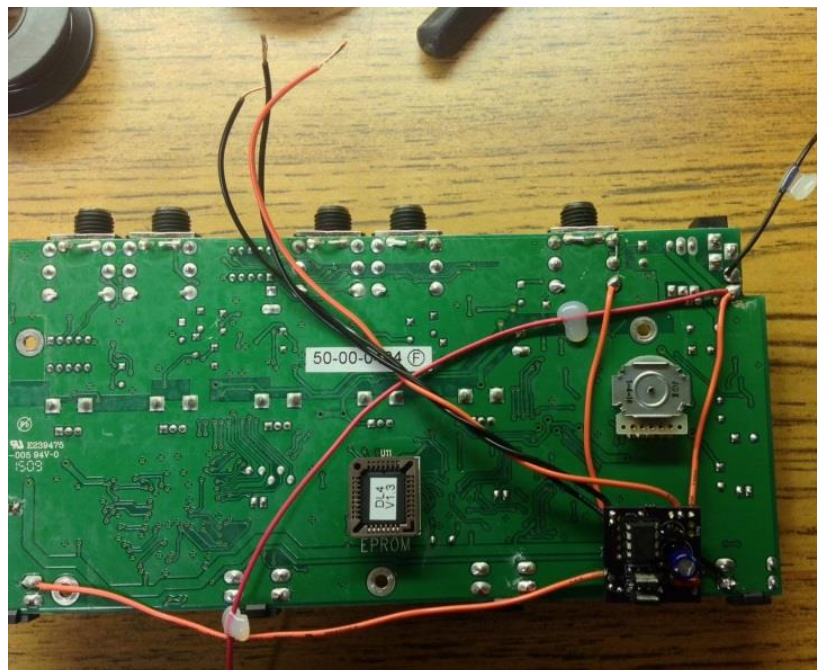

Figure 6.7
7. Next, connect wires to the "LED1", "LED2", and "5V" pads on the SS PCB. Make sure that they stretch about 1.5" past the edge of the DL4 PCB in-between the input and output jacks. (Figure 6.7)